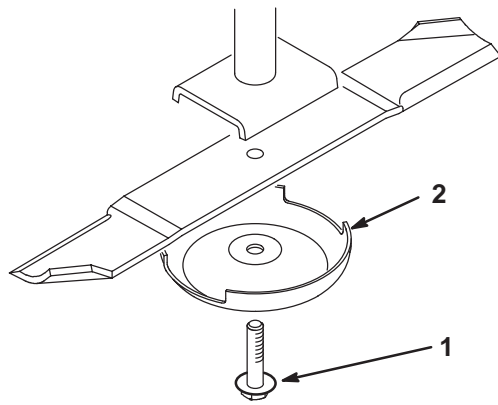

Figure 29
- Grasp the end of the blade using a rag or thickly padded glove. Remove the blade bolt, anti-scalp cup, and blade from the spindle shaft (Fig. 29).